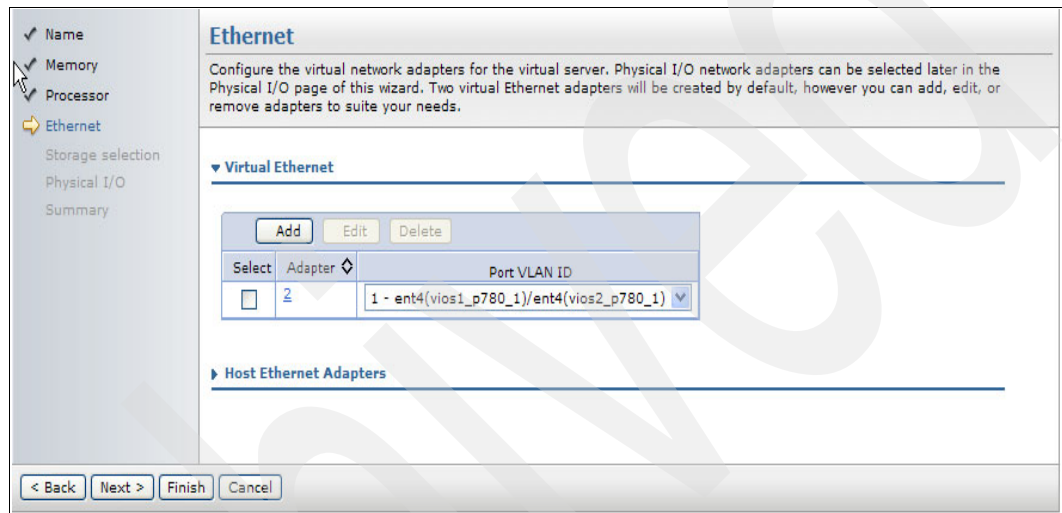

Figure 6-43 Ethernet configuration for the virtual server
5. In the Ethernet window, be sure that you only have one virtual Ethernet adapter that is located in VLAN 1, as shown in Figure 6-43.